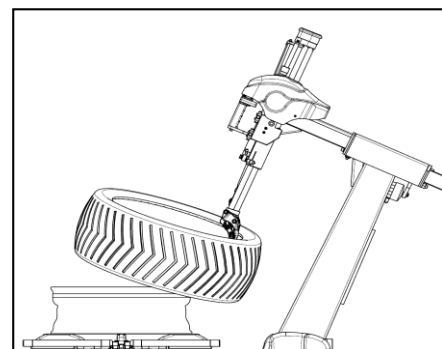

FIG18
- Then step the tilt pedal to tilt the column back and take out the tire like FIG18. Finish the demounting tire operation.